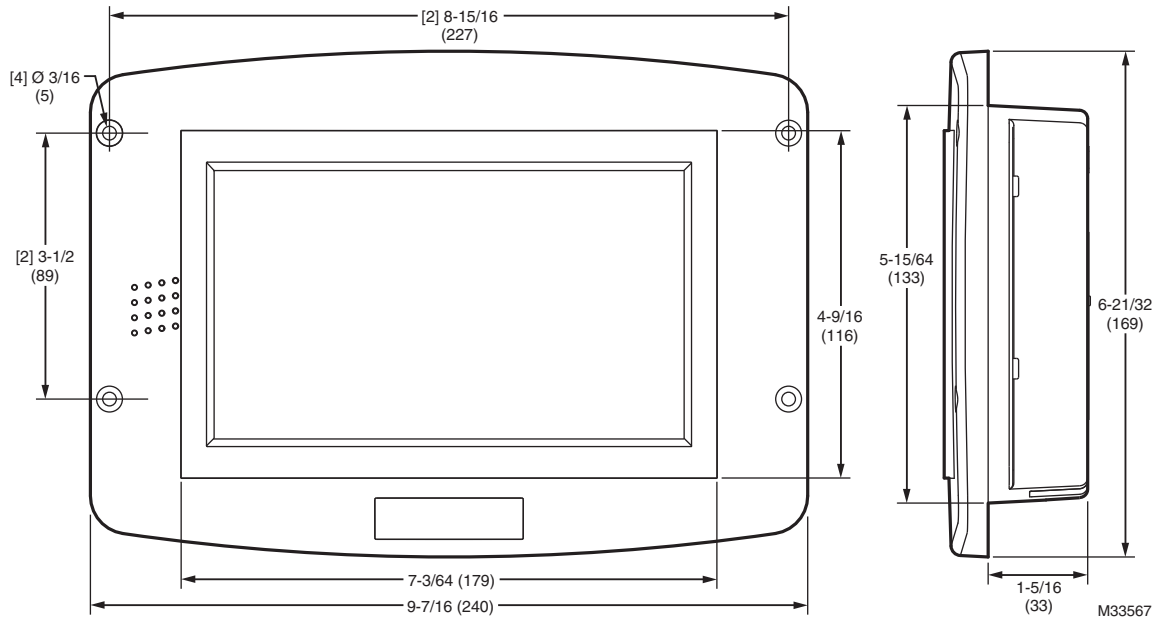

Fig. 1. S7999D dimensions in in. (mm).
Dimensions: See Fig. 1
2. Provide an opening in the panel door 8" wide X 5 1/2" high (for front panel mount) or 7 1/8" wide X 4 11/16" high (for rear panel mount). See Fig. 1 or use cutout templates provided in Fig. 129 and Fig. 130.